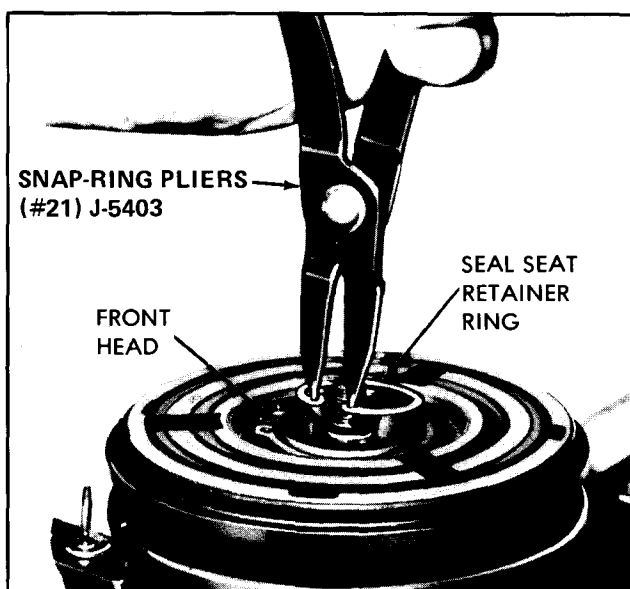
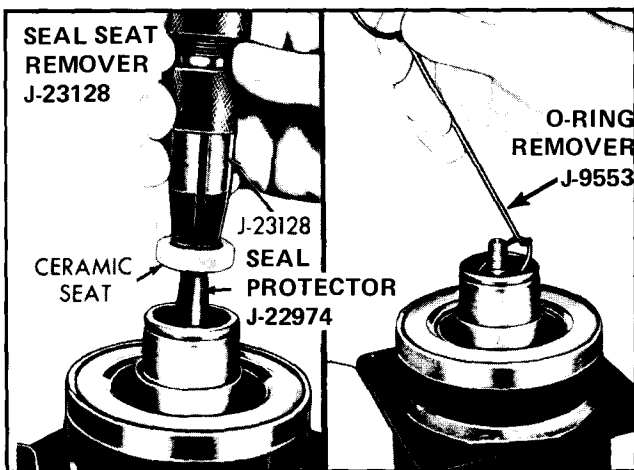

Figure 57—Removing or Installing Shaft Seal Seat Retaining Ring
Figure 58—Removing Shaft Seal Seat and O-Ring
2. Pry out the sleeve retainer and remove the absorbent sleeve. Remove the shaft seal seat retaining ring, using Snap-Ring Pliers J-5403 (#21). See Figure 57.
4. Place Seal Protector J-22974 over the end of the shaft to prevent chipping the ceramic seal. Fully engage the knurled tangs of Seal Seat Remover-Installer J-23128 into the recessed portion of the seal seat by turning the handle clockwise. Lift the seat from the compressor with a rotary motion (figure 58).
Remove the seal seat O-ring from the compressor neck using O-Ring Remover J-9533 (See figure 58).
4. Coat the seal face of the new seal seat with clean 525 viscosity refrigerant oil. Mount the seal seat on Seal Seat Remover-Installer J-23128 and install it in the compressor neck, taking care not to dislodge the seal seat O-ring and being sure the seal seat makes a good seal with the O-ring. Remove Seal Protector J-22974 from the end of the shaft (See figure 58).
5. Install the new seal seat retainer ring with its flat side against the seal seat, using Snap-Ring Pliers J-5403 (#21). See Figure 57. Use the sleeve from Seal Seat Remover-Installer J-23128 (figure 58) to press in on the seal seat retainer ring so that it snaps into its groove.